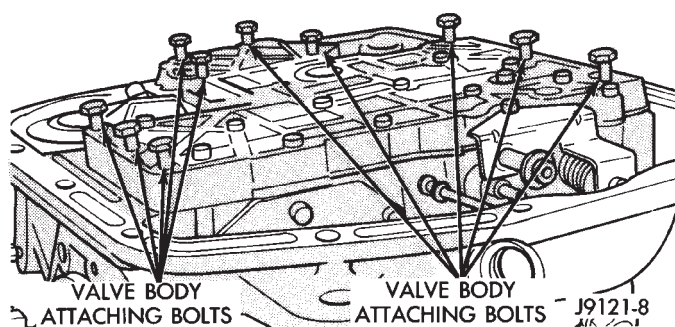

Fig. 5 Valve Body Attaching Bolt Locations (Typical)
(9) Remove hex head valve body attaching bolts (Fig. 5).